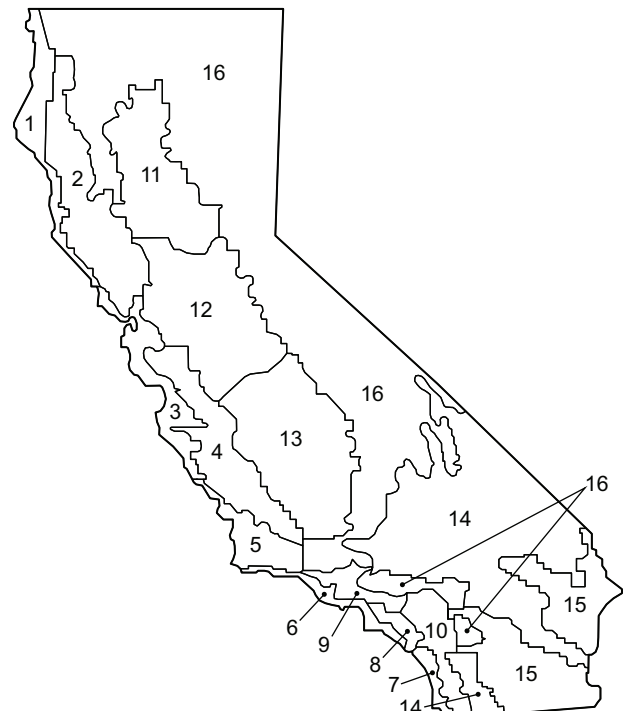

Fig. 82 – California Title 24 Zones
b. See Fig. 82 for map of California Title 24 zones.